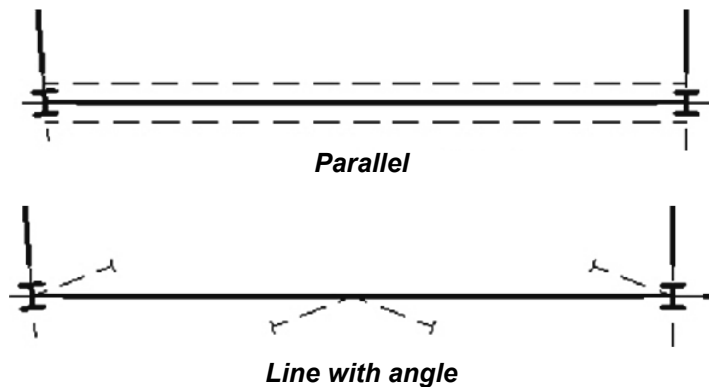

Figure 7–12
- In the *Manage* tab>Settings panel, expand  (Structural Settings) and click  (Structural Settings). In the Structural Settings dialog box, in the *Symbolic Representation Settings* tab, select the **Brace Symbols** options, as shown in Figure 7–13.